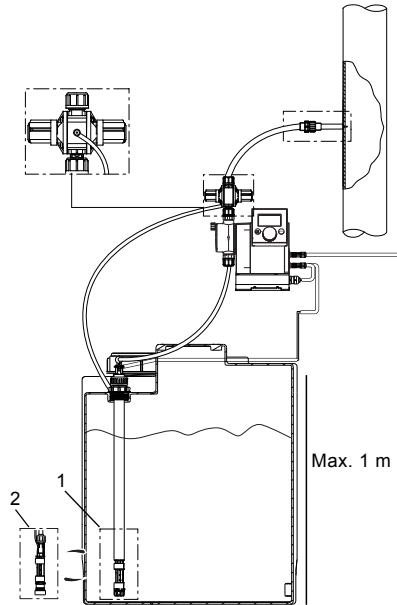

Fig. 3 Example of hose diagram
5. Attach the hose from the suction line to the dosing pump. See fig 3.